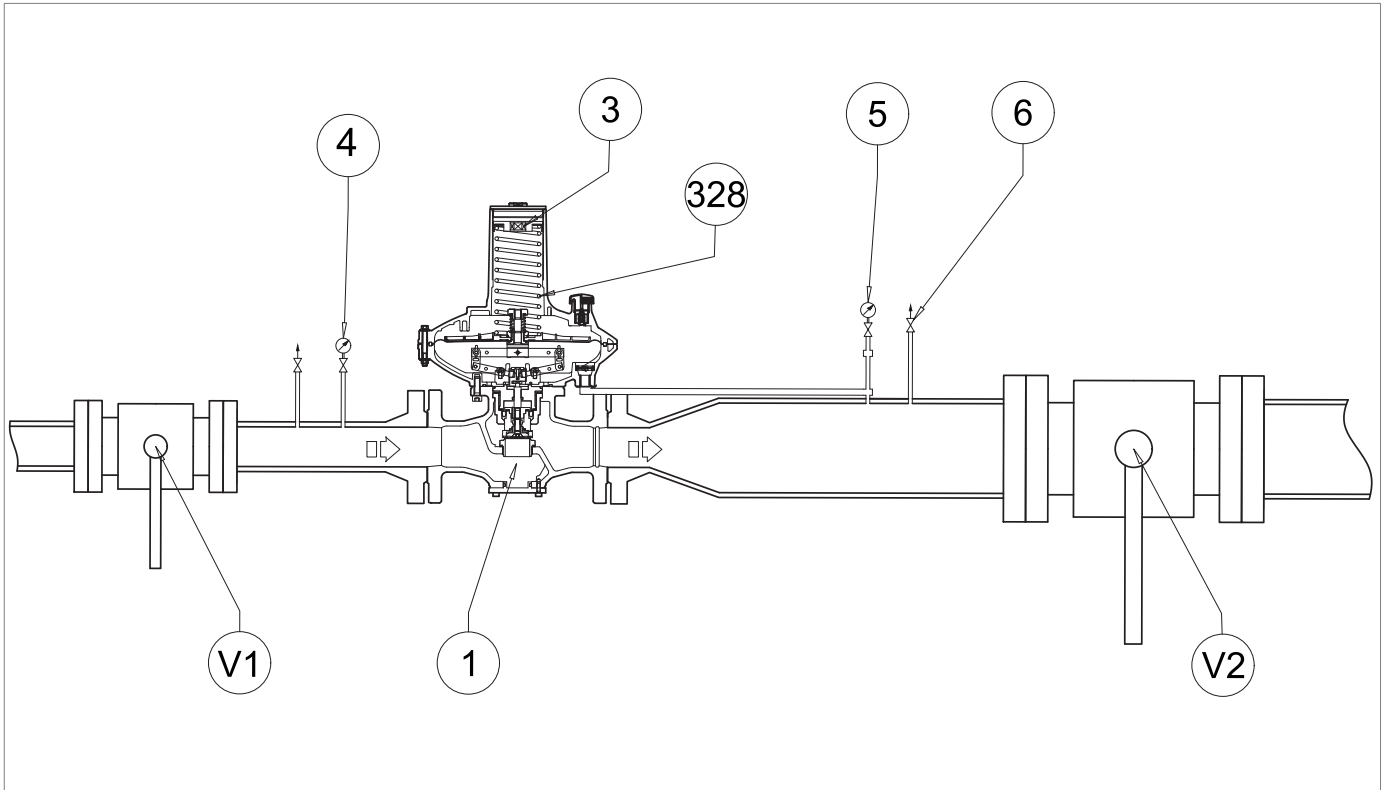
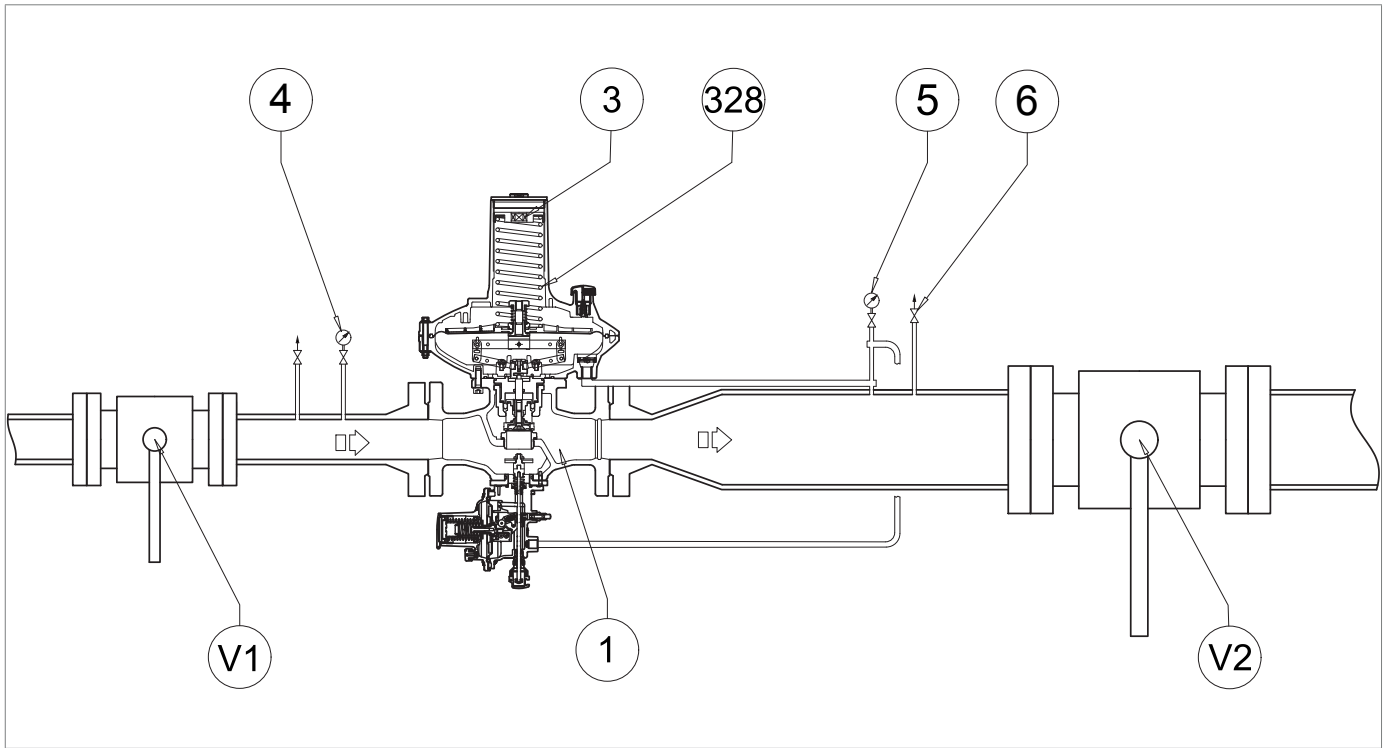
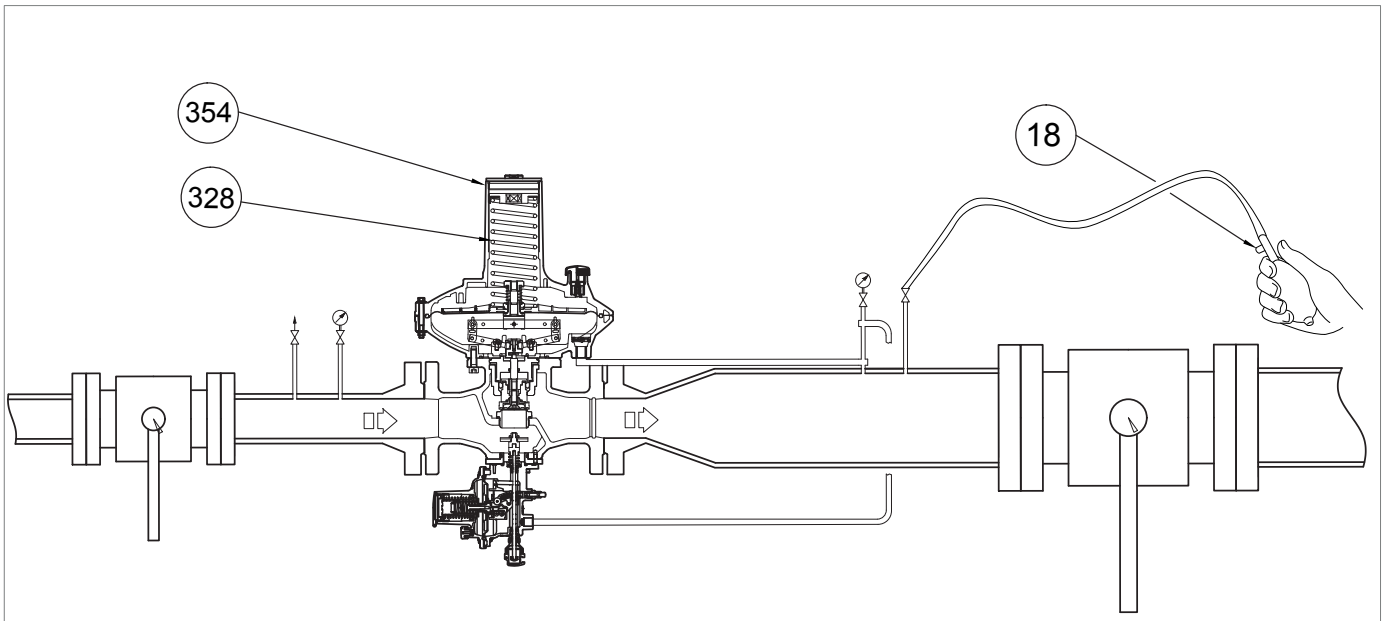

Fig. 8.16. Commissioning the DIVAL 600 regulator
Fig. 8.19. Commissioning of the DIVAL 600 regulator with LA slam-shut valve
Fig. 8.21. Pressurising with external source for incorporated LA slam-shut valve
For the following procedure, please refer to Figure 8.19 in par. "8.7.1 - Internal tightness check of LA slam-shut valve":
1	<p>Increase the downstream pressure to the tripping value of the slam-shut valve, connecting an external pressure source to the bleed cock (fig. 8.16, ref. 6) placed on the downstream pipe, making sure to open an additional bleed cock (fig. 8.21, ref. 18).</p> <div style="border: 1px solid black; padding: 5px;"> <p>! NOTICE!</p> <p>Check the pressure referring to the downstream pressure gauge (fig. 8.16, ref. 5).</p> <p>If the slam-shut valve:</p> <ul style="list-style-type: none"> • trips before the expected pressure value: screw in (clockwise) the adjustment ring nut (13) so as to further compress the spring (11); • does not trip at the expected pressure value: unscrew (anti-clockwise) the adjustment ring nut (13) so as to relieve the spring (11). </div>
3	Close the additional bleed cock (fig. 8.21, ref. 18).
3	<p>If necessary, remove the closing cap (fig. 8.21, ref. 354) together with the adjustment ring nut and remove the regulation spring (fig. 8.21, ref. 328).</p> <div style="border: 1px solid black; padding: 5px;"> <p>! NOTICE!</p> <p>Check the tripping pressure value of the slam-shut valve indicated on the downstream pressure gauge (fig. 8.19, ref. 5).</p> </div>
5	<p>After having checked that the slam-shut valve trips at the preset value, proceed as follows:</p> <ol style="list-style-type: none"> Close the air vent valve (fig. 8.16, ref. 6) Position the regulation spring (fig. 8.21, ref. 328), the closing cap (fig. 8.21, ref. 354), and adjustment ring nut (fig. 8.16, ref. 3) Slowly open the upstream shut-off valve (V1) until the downstream pressure value (Pd) reaches the calibration value of the regulator, referring to the downstream pressure gauge (fig. 8.16, ref. 5) Close the upstream shut-off valve (V1) Slowly and partially open the air vent valve (fig. 8.16, ref. 6) to decrease the downstream pressure referring to the downstream pressure gauge (fig. 8.16, ref. 5) until it reaches the minimum pressure tripping value Check the minimum pressure spring for proper calibration by repeating steps 2-3-4 at least three times Calibrate the main regulator referring to par. "8.5 - Regulator commissioning procedure"